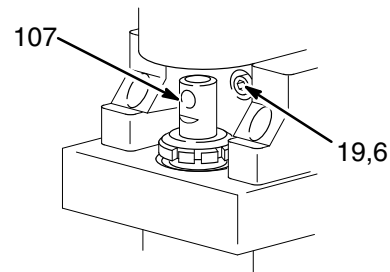
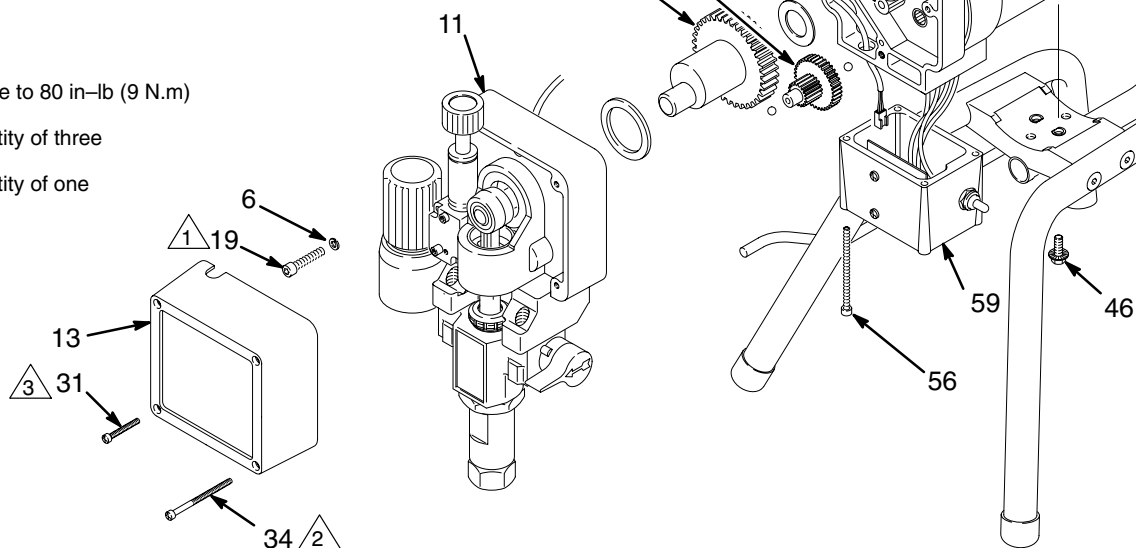
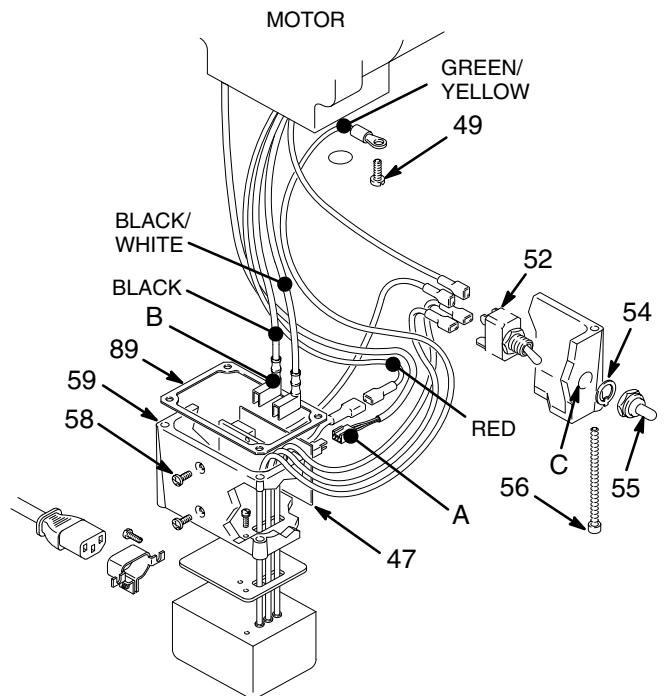

Fig. 19
Fig. 20
Fig. 21
NOTE: See Fig. 20 except where noted.
3. Remove the screws (56) and lower the junction box (59). Disconnect the motor wires and the pressure control wire (A) from the motor start board. Refer to Fig. 21 on page 23.
4. Remove the front cover (13).
5. Turn the displacement pump rod (107) so the pin hole aligns with the bottom drive housing screw (19). See Fig. 19. Remove the three drive housing screws and lockwashers (19,6). Also see Fig. 20.
6. Remove the two motor screws (5) and the lock washers (6).
7. Tap the lower rear of the drive housing (11) with a plastic mallet to loosen the motor. Pull the drive housing straight off the motor while guiding the harness (A) from the motor. Do not allow the gear (16) to fall. Read the CAUTION on page 24.
8. Remove the two screws (46) and lift the motor off the base (66).
9. Align the new motor with the base and reinstall the screws (46).
11. Connect the wires in the junction box. Refer to Fig. 21 on page 23. Install the junction box.
12. Connect the piston rod (107) to the drive housing; see page 21, **Installing the Pump**, Step 2 and the **WARNING** following it.
NOTE: See Fig. 21 for this procedure.